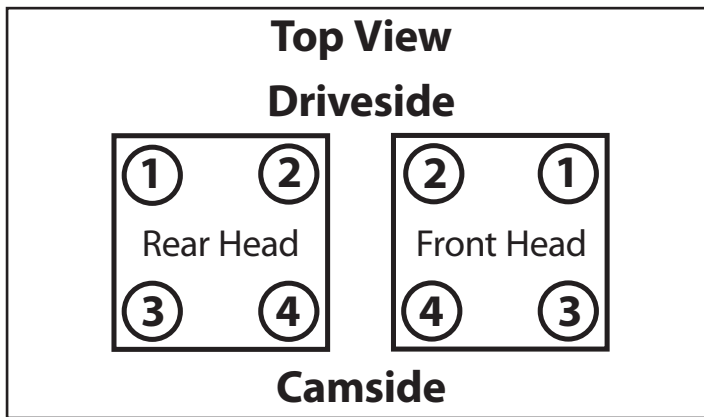

Figure 3
- a. Tighten each bolt finger tight using the sequence in **Figure 3**.
7. Fully loosen all head bolts $\frac{1}{4}$ turn at a time in the sequence shown in Figure 3 until fully loose. Repeat the tightening sequence in step 6 a second time. **See Figure 3.**